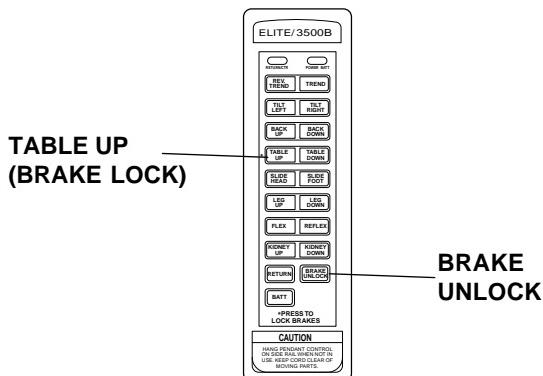

Figure 3-6. Brake System Activation
**a. Floor Lock/Brake System.** To activate the brakes without affecting table positioning, press the TABLE-UP button. See figure 3-6. The elevation cylinder will not function until the brakes are completely extended.
Press the BRAKE-UNLOCK button on the pendant control to release the four self-leveling brake feet in order to move the table. See figure 3-6. The brake delay circuit automatically retracts the brake system with just one press of the BRAKE-UNLOCK button. It takes approximately 7-8 seconds to totally release the system.